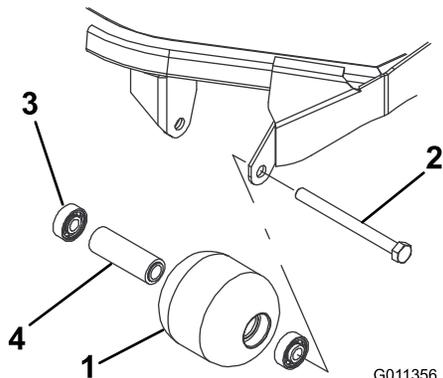

Figure 98
1. Remove the roller-mounting bolt (Figure 98).
4. Inspect the roller housing, bearings, and bearing spacer for damage (Figure 98). Replace any damaged components and assemble them.
1. Press the first bearing into the roller housing (Figure 98). Press on the outer race only or equally on the inner and outer race.
2. Insert the spacer (Figure 98).
3. Press the second bearing into the roller housing (Figure 98). Pressing equally on the inner and outer race until the inner race contacts the spacer.